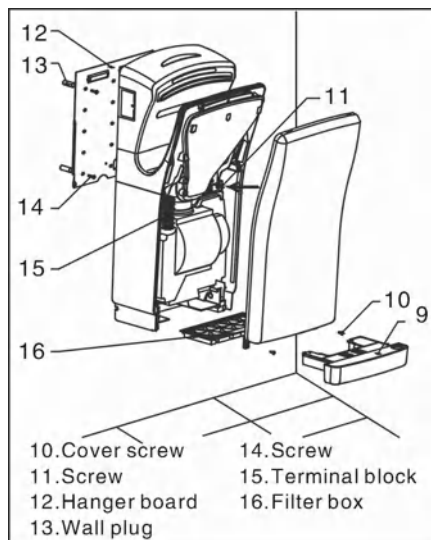

fig.2
3. Remove and retain tray, 2 cover screws and cover (see fig.2).